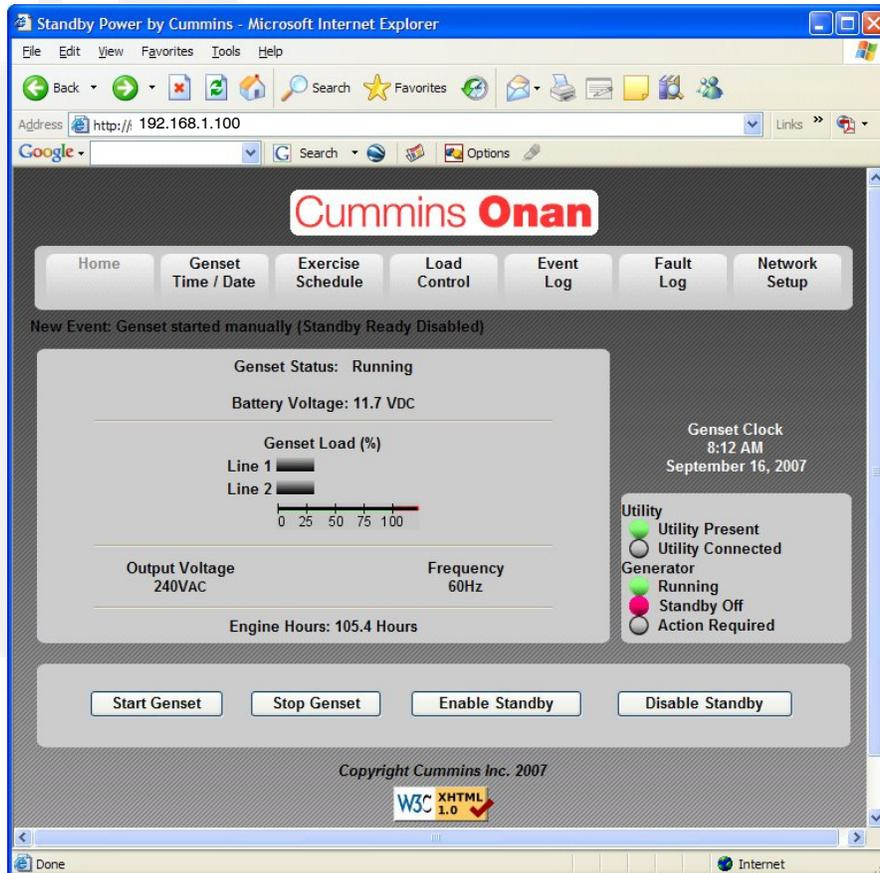

FIGURE C-3. GENERATOR SET HOME PAGE
3. Type the IP address in the address bar of the web browser of a computer established on the same in-home network as the generator set. The computer's web browser will display the generator set's web page (Figure C-3).
3. Click **Network Setup** on the home page (Figure C-3).
2. Click **Network Setup** on the home page (Figure C-3).